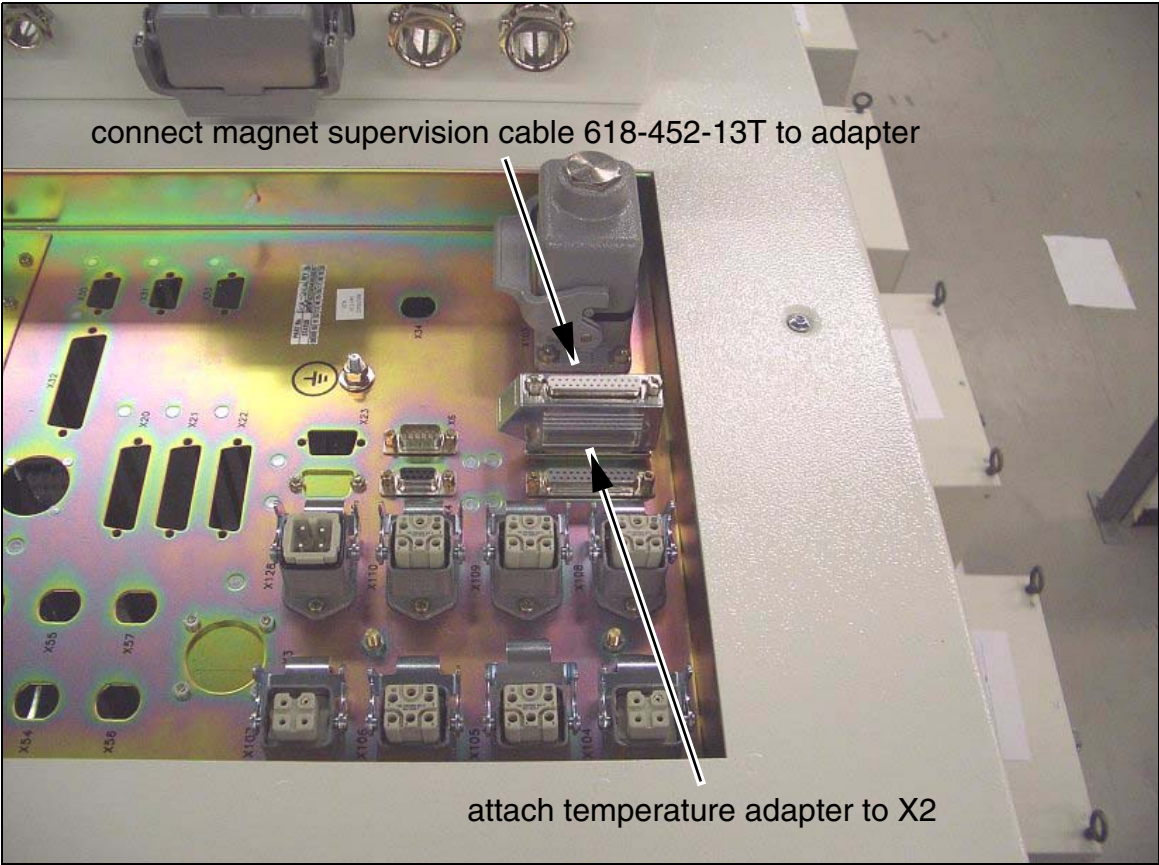

Fig. 4 Temp adapter 617-175 plugged on CCA cabinet
- ⇒ An alarm will come up at the alarm box, please acknowledge. Connect the male plug of the temp adapter to the X2 socket located on the top of the K2201 cabinet (Fig. 4).